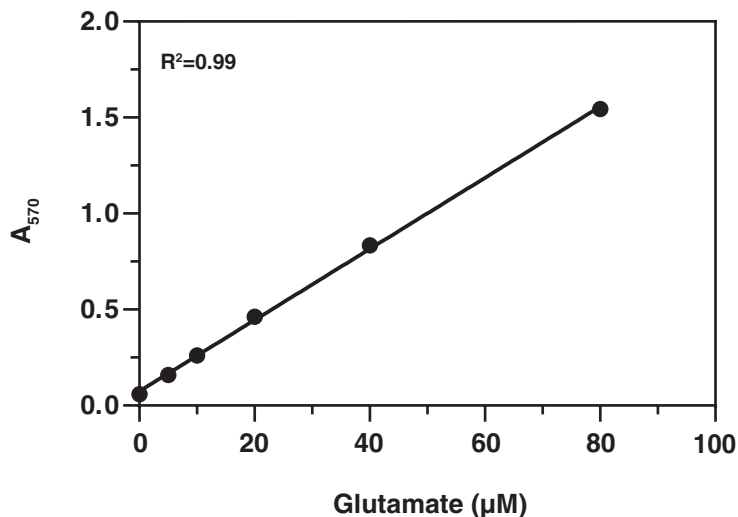

Figure 5. Glutamate standard curve
3. Obtain the slope ($A_{570}/\mu\text{M}$) of the linear curve. See Figure 5 on page 18 for a typical standard curve.